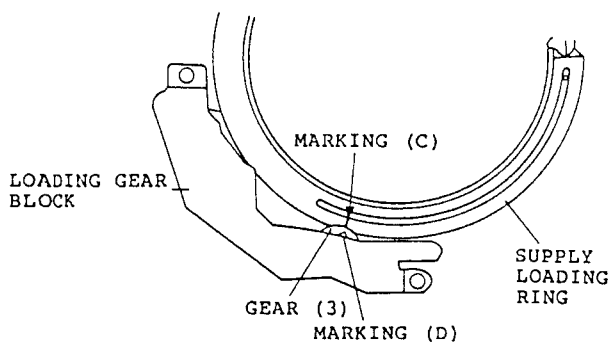

Fig. 3-3
- 8) Assemble the supply loading ring into the chassis so that marking (C) on the supply loading ring and marking (D) on gear (3) are aligned. (See Fig. 3-3)